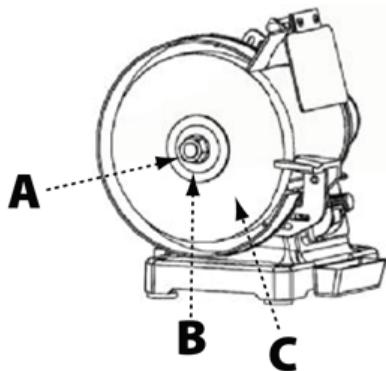

FIGURE 9
4. Remove the arbor nut (A), wheel nge (B), and old grinding wheel (C), as shown in Figure 9.